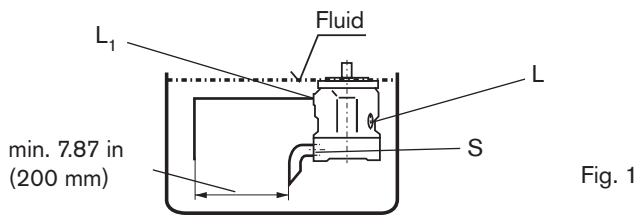

Fig. 1
a) If the min. fluid level is equal to or above the pump mounting face: plug port "L", "L₁" and "S" open; it is recommended to pipe "L₁" and connect a suction pipe to "S" (see fig. 1).